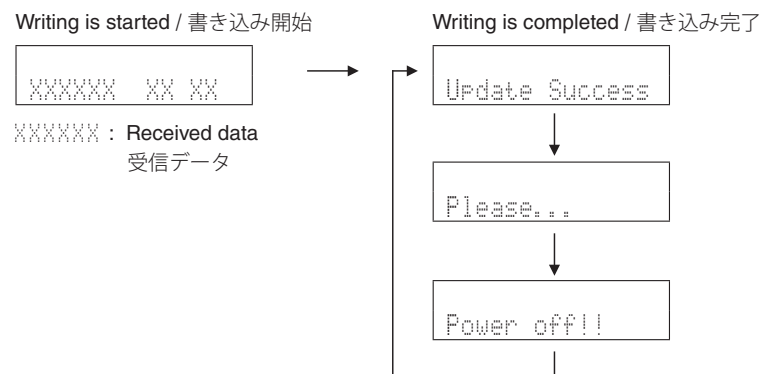

Fig. 3
2. Play the firmware CD on the BD/DVD/CD player. Writing of the firmware starts automatically. (Fig. 3)
3. When writing of the firmware is completed, "Update Success", "Please..." and "Power off!!" are displayed repeatedly. (Fig. 3)
3. ファームウェアの書き込み完了後、"Update Success"、"Please..."、"Power off!!" が繰り返し表示されます。(Fig. 3)